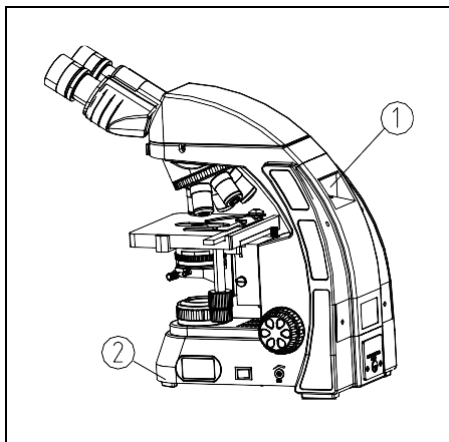

Fig.1
2. When moving the microscope, use both hands to hold its back hand-clasping ① and the front base ②, and lay it down carefully (see Fig. 1).